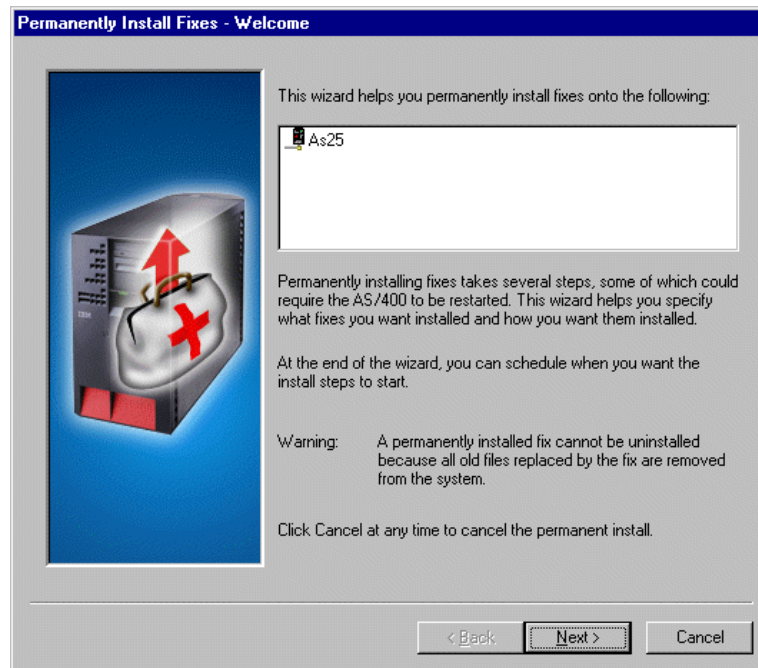

Figure 95. Permanently Install Fixes wizard: Welcome window
4. When the list of fixes for that product appears in the right-hand panel, right-click on the fix to be installed. Select **Advanced**, and then click on **Install Permanently** to start the Permanently Install Fixes wizard. The Welcome window is shown in Figure 95.